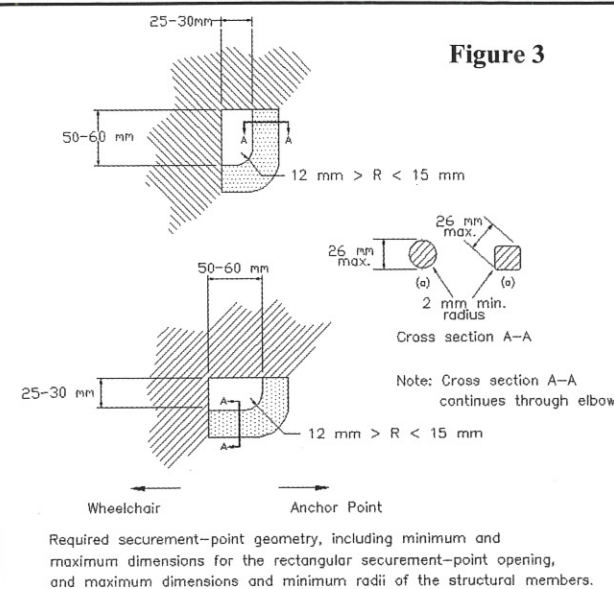

Figure 3
- SEE FIGURE 3 FOR IDEAL GEOMETRY TO ATTACH OUR HOOKS